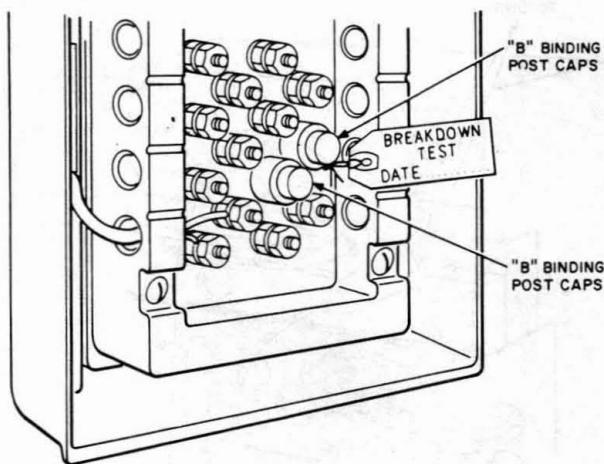

Fig. 12—F-Type Terminal Correctly Protected
- (c) Depending on the nature of the termination, at each appearance cover the tip and ring terminals of the pair or pairs and fuse mountings with red B binding post caps or binding post insulators. Then tie a linen tag, on which is written **breakdown test** and the date on one of the caps or insulators at each appearance, except at the location where the breakdown voltage is applied. It is important that the tag and string be so placed that they are not in contact with any binding posts in the terminals as, at some later date, a high-resistance fault might result due to dampness. A pair so prepared and marked is illustrated in Fig. 12.